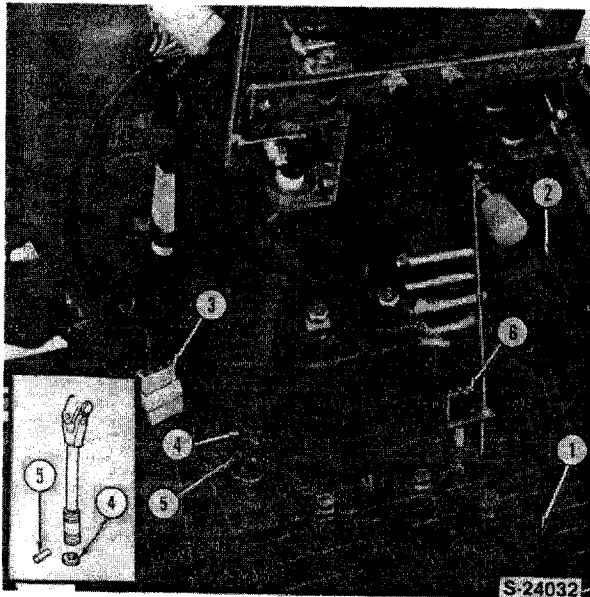

Figure 27
5. Remove the rubber mats and remove the step plates from each side, Figure 27.
6. Remove the rubber mat from the top of the transmission case, Figure 27.
12. Remove the snap ring (4) and pin (5) from the shift arm linkage rod, Figure 27.
14. Disconnect the parking brake switch (6) wire connector, Figure 27.